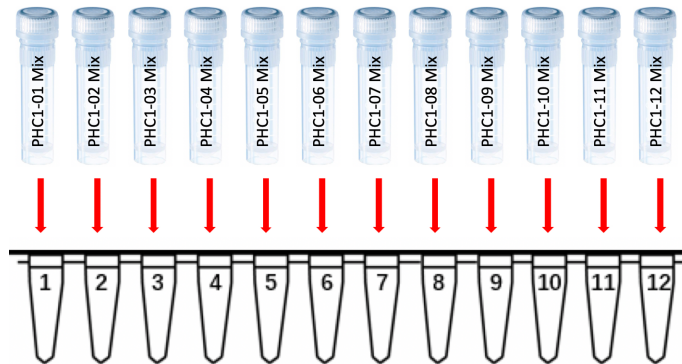

Figure 11.2. Aliquot HPV PHC1-01 Mix – HPV PHC1-12 Mix to a 12-strip PCR tubes.
- 2) From box 1, aliquot 41.4 µl of HPV PHC1-**01** Mix to the **first** tube of a 12-strip 200 µl PCR tubes, aliquot 41.4 µl of HPV PHC1-**02** Mix to the **second** tube of the 12-strip PCR tubes, and so on, and finally aliquot 41.4 µl of HPV PHC1-**12** Mix to the **last** tube of the 12-strip PCR tubes (Figure 11.2)